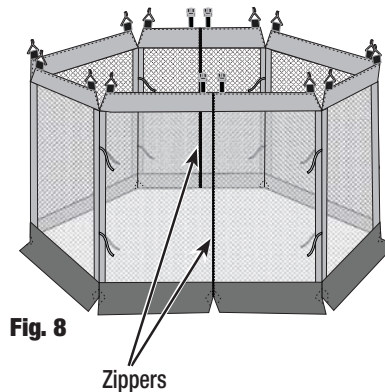

Fig. 8
- Unroll screen house and wrap around outside frame posts and under the shelter top. Locate zippers per illustrations. (Fig. 8)